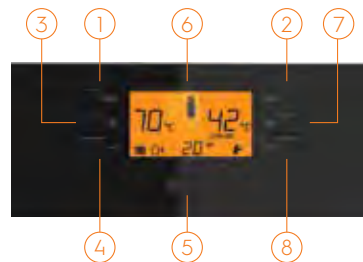

Figure 3.4 Control Panel of Priwa Plus & Enerwa Plus Combi
When combi is started, flame modulation symbol is seen at the middle section of the screen. At that position, you can increase and decrease the temperature with radiator temperature adjustment buttons (**see. Figure 3.4**) (3) between 35 – 80 °C, screen lights when buttons are pressed and °C symbol flashes besides the radiator temperature value.